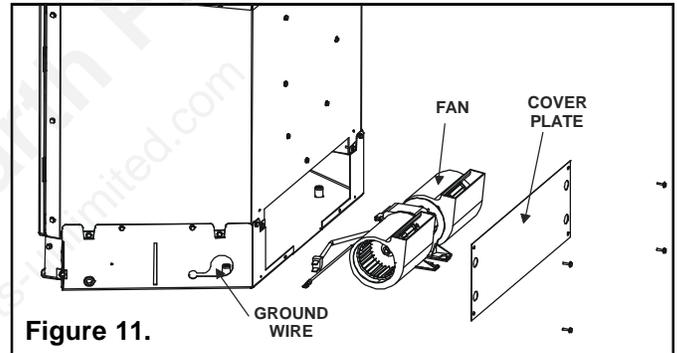

Figure 11.
- Remove the four screws on the coverplate (see Figure 11).